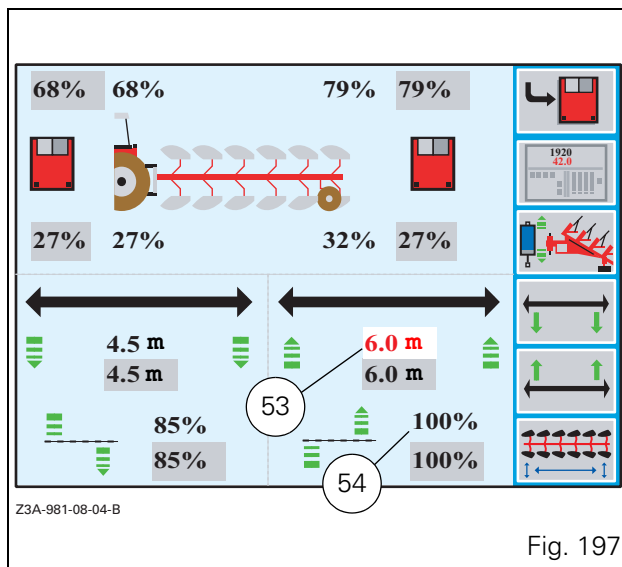
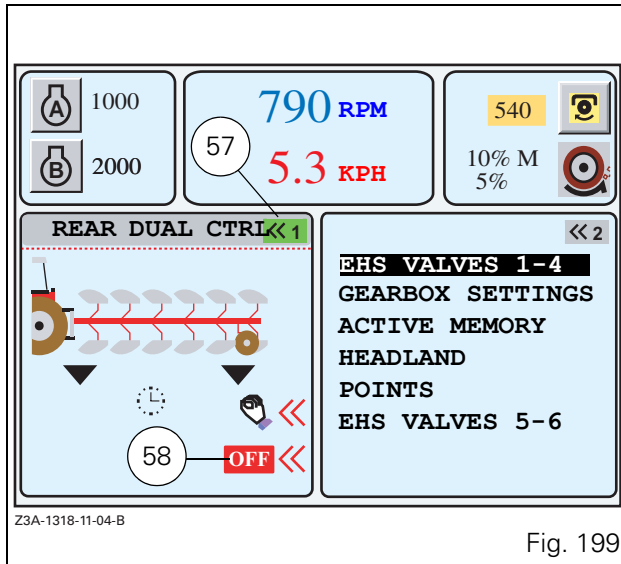

Fig. 197
Fig. 199
- Press the key «5 when the window (Fig. 197) is open. The furrow end length is displayed in red (53 Fig. 197).
- Adjust the length by rotating the encoder and validate by pressing the latter. The value is displayed in black and the furrow end depth wheel partial lifting value is displayed in red (54 Fig. 197).
NOTE: To set the plough depth wheel furrow end partial lifting value, first define the furrow end length (53 Fig. 197).
- When the depth wheel partial lifting value is displayed in red (54 Fig. 197), adjust it by rotating the encoder.
- For this, press the key «₂ when the window (Fig. 197) is open. The window (Fig. 199) is displayed.
- Press the key «₆ when the icon (57 Fig. 199) is green (if this is not the case, first press the key «₁ so the icon (57 Fig. 199) is displayed in green. The DUAL CONTROL function is then active and the symbol (58 Fig. 199) changes from OFF to ON (59 Fig. 200).
NOTE: On b/w screens, the active window is indicated by the icon (57 Fig. 199) in reverse video.
To return to the window (Fig. 197), press the key «₅ when the window (Fig. 200) is open and the icon (57 Fig. 200) is green.